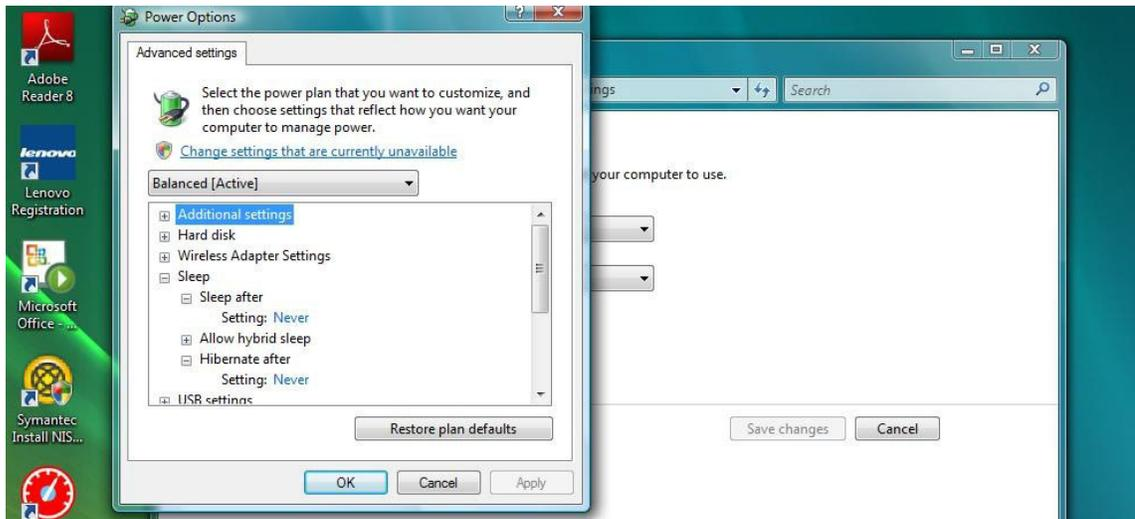

FIG. 20
5. Find “Sleep” in the scroll list (FIG. 20). Change the “Sleep after” setting to NEVER and the “Hibernate after” setting to NEVER.
6. Click the Apply button to save these changes. Then click the OK button (FIG. 20).